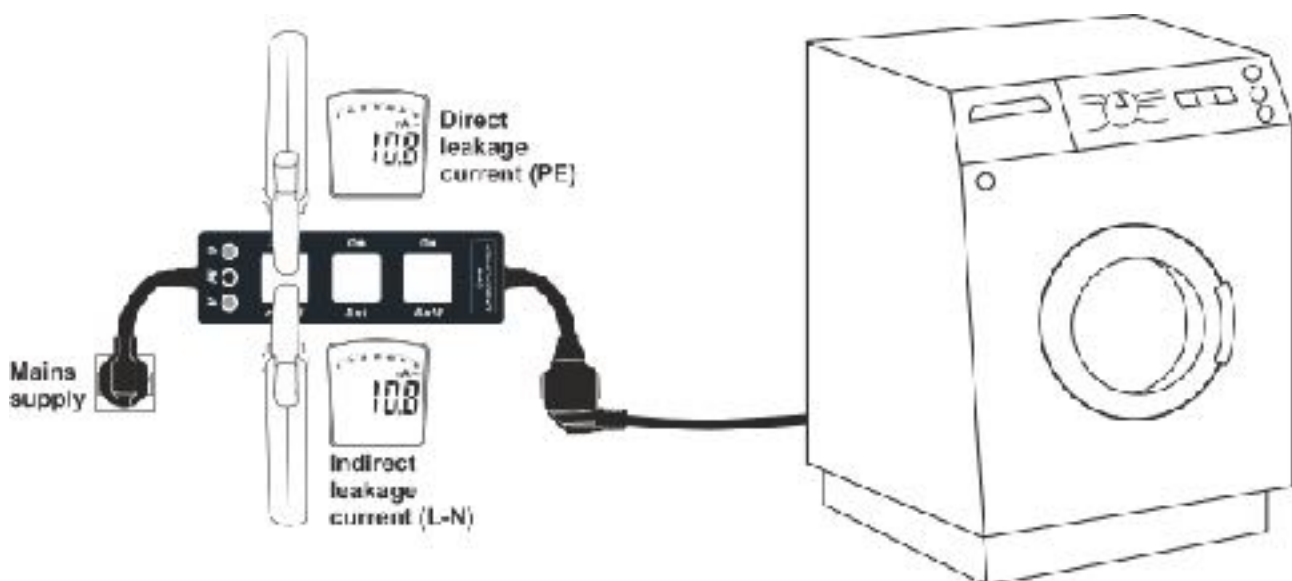

Fig. 3: Use of the instrument for leakage current measurement
4. Read the direct value of leakage current (PE conductor) in the mA PE ring or the indirect/differential value of leakage current (L-N conductors) in the mA L-N ring (see Fig. 3).